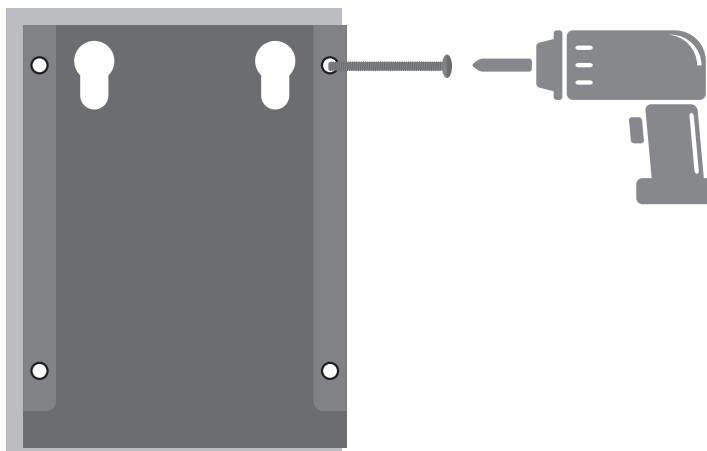

Fig. 5.4.7
5. Fix the bracket to the wall with the expansion screws (See Fig. 5.4.7) included in the package.